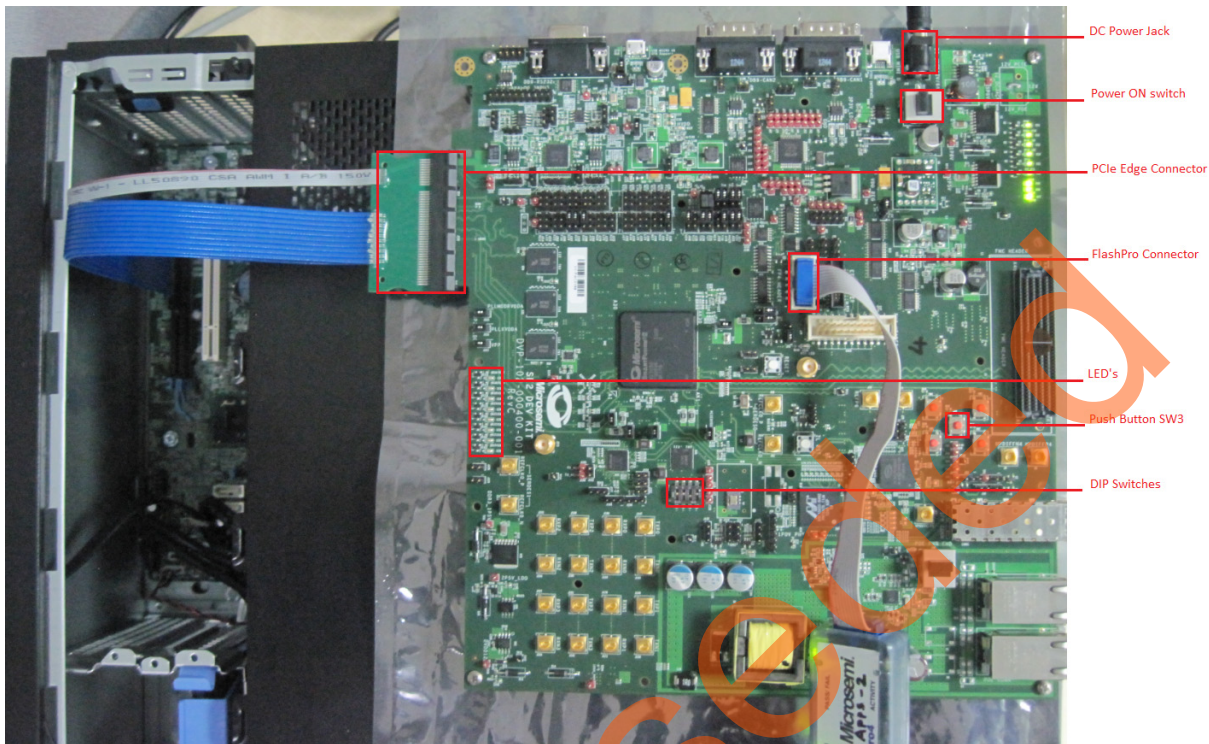

Figure 59 • SmartFusion2 Development Kit Setup
8. The board setup is shown in Figure 59.